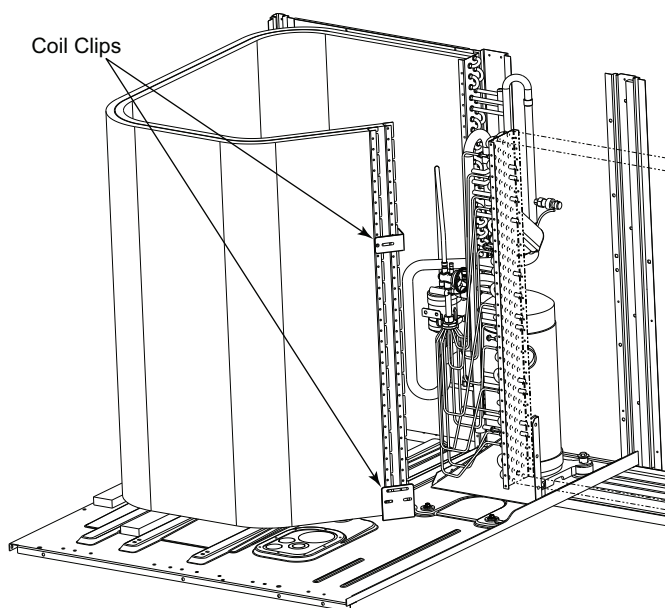

Fig. 19 — Condenser Coil Clips
5. Remove the screws from both sides of the upper and lower coil retaining clips on the hairpin end of the coil tube sheets. See Fig. 19.